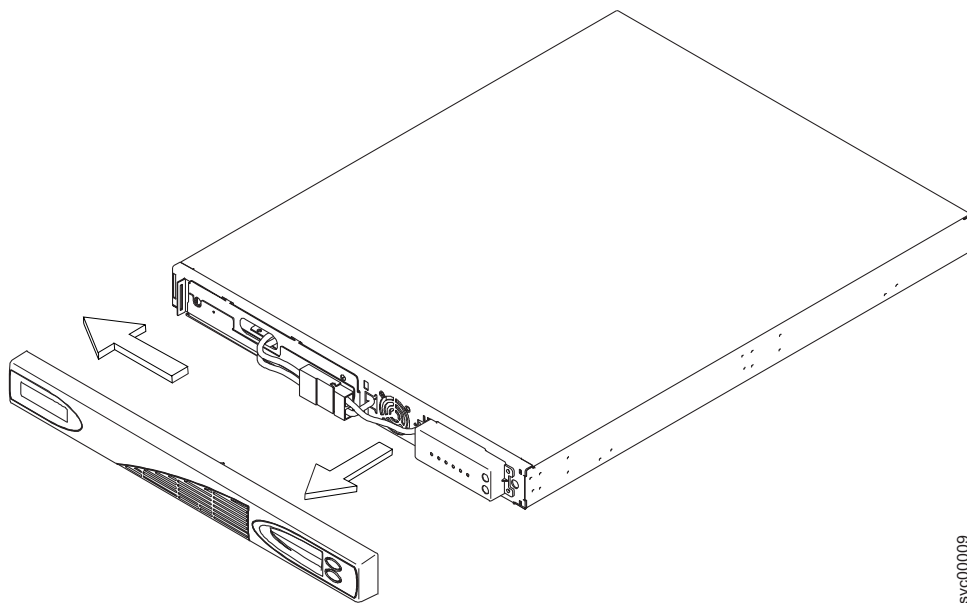

Figure 228. Removing the 2145 UPS-1U front panel
5. Remove the 2145 UPS-1U front panel, as shown in Figure 228.